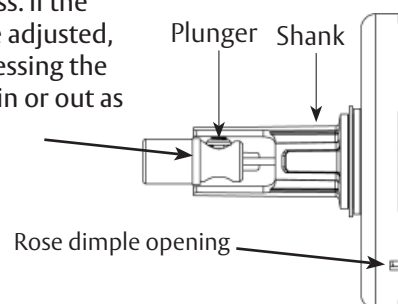

Figure 8
6. In the unlocked position, verify the button is adjusted properly. See Figure 8 for proper alignment. Adjust if necessary.